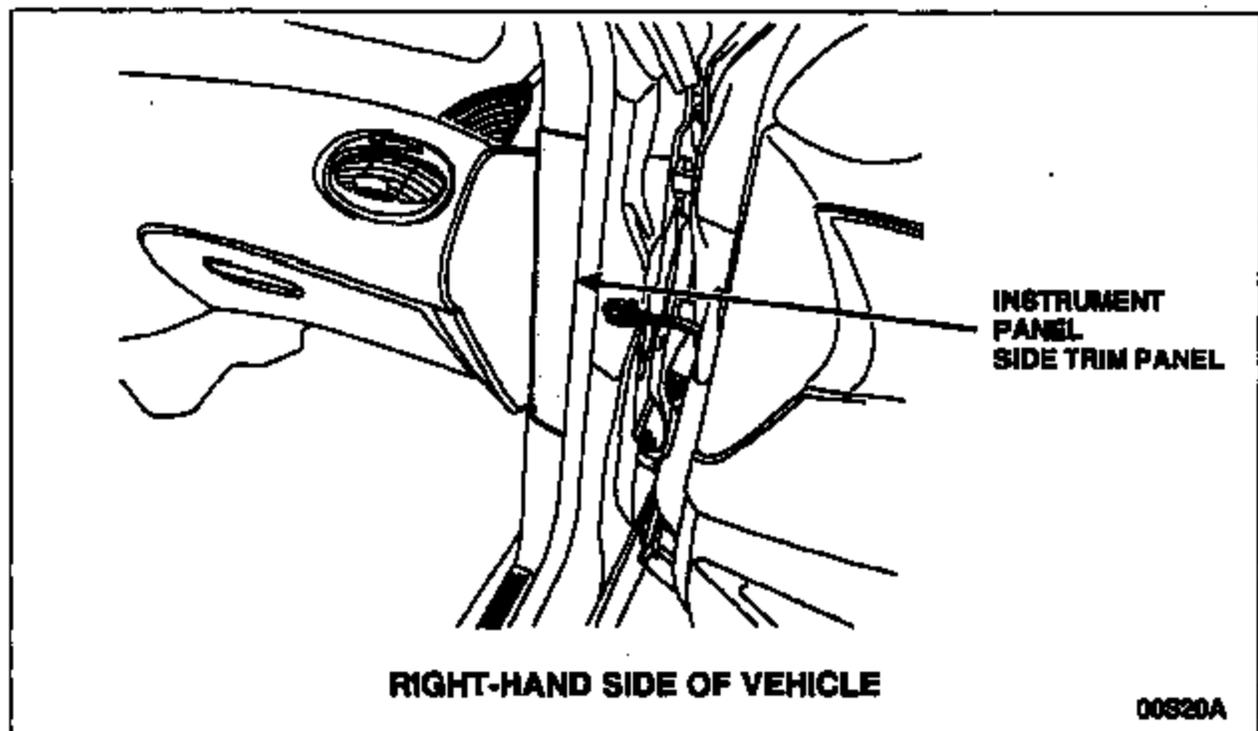

FIGURE 1
1. Remove the instrument panel side trim panel. See Figure 1.